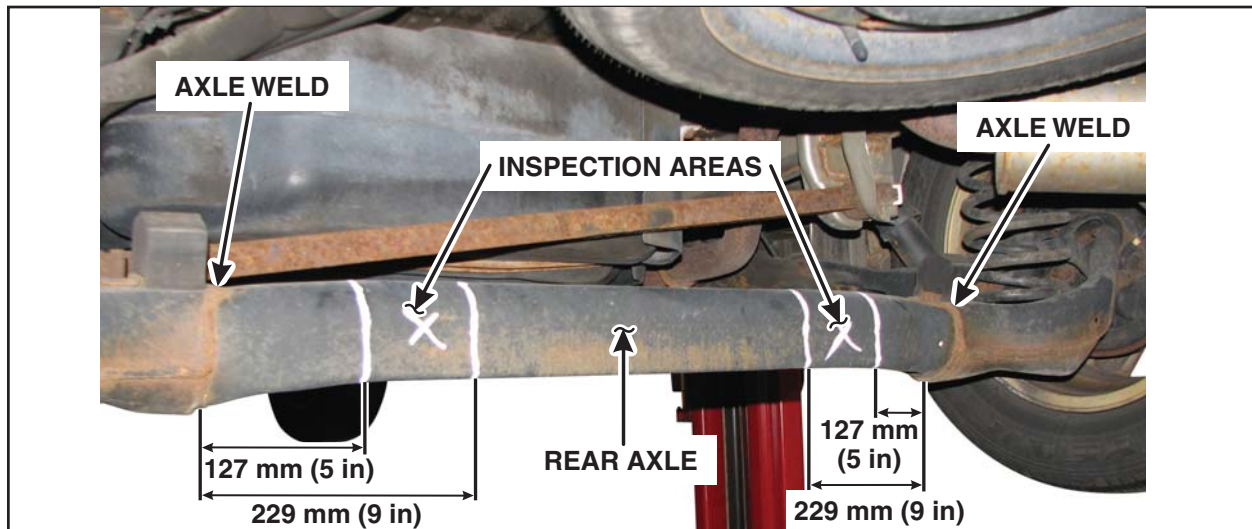

FIGURE 1
2. Measure and mark the inspection areas located 127 mm (5 in) to 229 mm (9 in) inboard of the axle welds. See Figure 1.